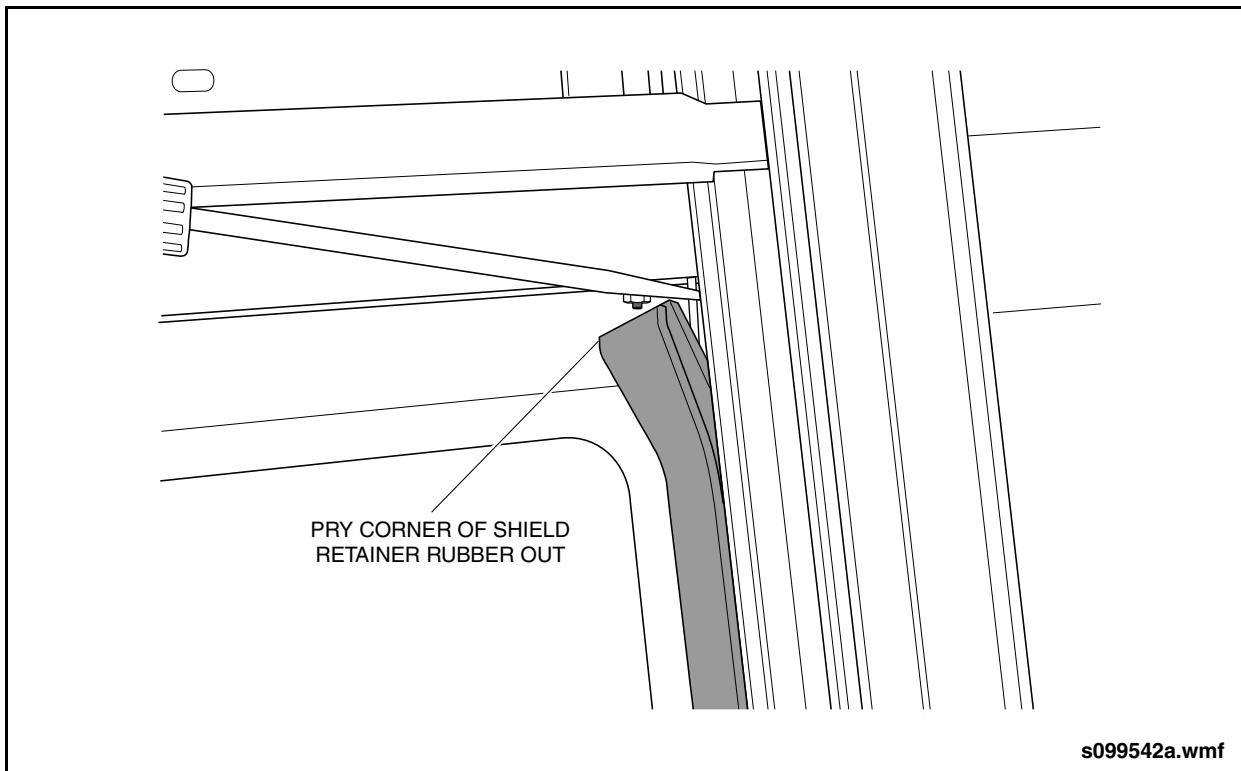

Fig. 14-30: Shield Retainer Rubber Removal
1. At one of the corners, insert a small pick or screwdriver and remove from groove. See "Fig. 14-30: Shield Retainer Rubber Removal" on page 36.